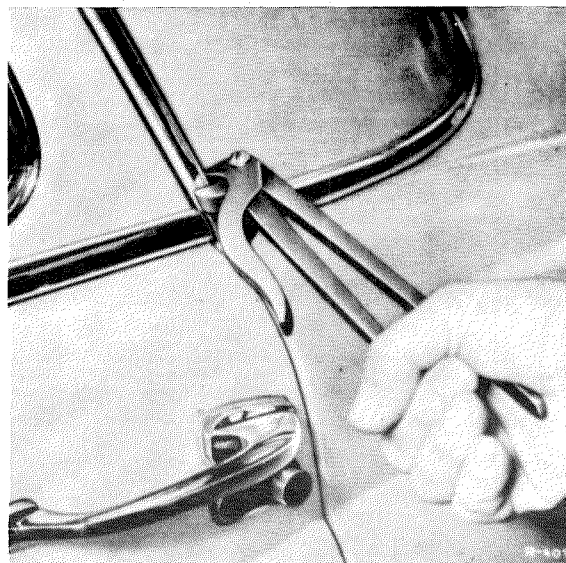

Fig. 69 — 4/2
5. Install the oval head countersunk rivets by means of special Rivet Fastener 180 589 00 37 (Fig. 69 — 4/2). Install the butt strap above the butt.